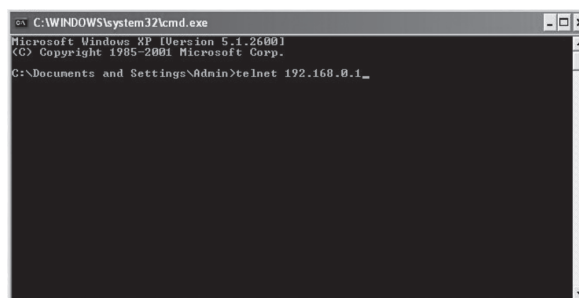

Figure 5-11 Connecting to the Switch
4. Type telnet 192.168.0.1 in the command prompt shown as Figure 5-11, and press the Enter button.